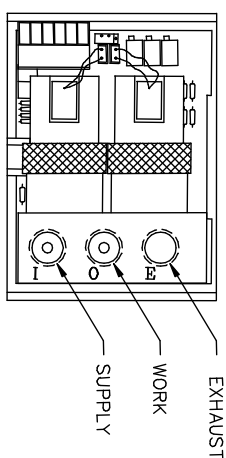

Figure 2
2. Connect supply pressure to the “I” port (figure 2) not to exceed rated supply pressure. (See table 1) **Be sure to look at the stamping because the supply “I” and the exhaust “E” ports are reversed in high pressure units.** For units with S938 option, the supply “I” and the exhaust “E” ports are reversed. The supply pressure must be connected to “E” port.
3. Connect the outlet “O” port (figure 2) to the device being controlled.